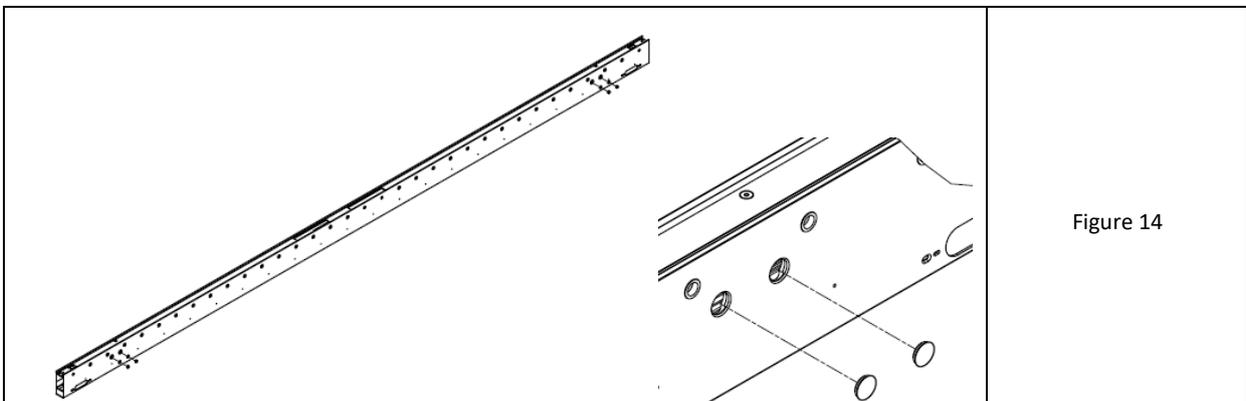

Figure 14
14. Place the wall beam over the anchors (or make a through fixing of the anchors through the beam) and fix the beams using a nut washer from the anchor (size M12). Tighten torque according to anchor manufacturer's instructions (fig. 14).
15. Plug the holes for the anchors in the beam with aluminium plugs set on silicone (fig. 14-right).